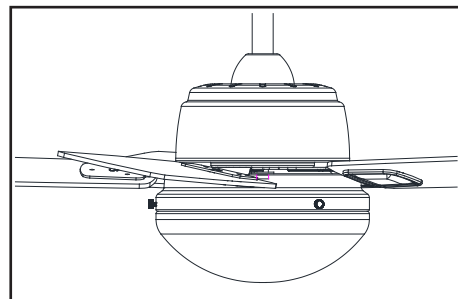

Figure 18
6. Carefully slide the glass shade completely into the outer rim of the light kit fitter assembly so that the ridge of the glass bowl aligns with screw holes in the outer rim. (Figure 18)
7. Secure the glass shade by finger tightening the three screws until they touch the glass shade. Do not over-tighten the screws. (Figure 18)